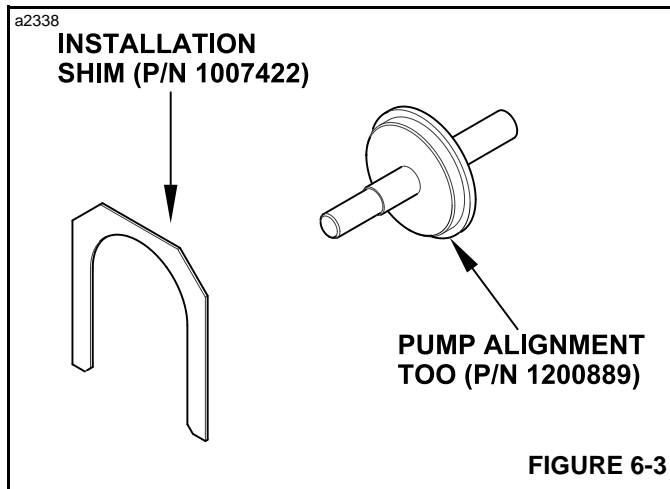
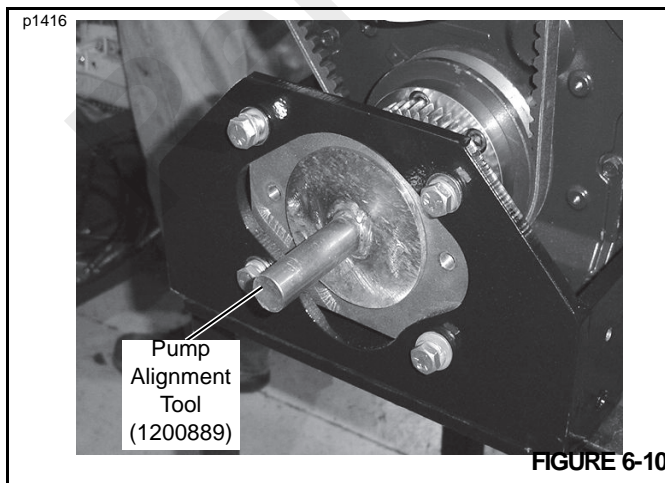

FIGURE 6-3
FIGURE 6-10
The special tools shown in Figure 6-3 are available from Marine Travelift.
7. Insert the pump alignment tool (Figure 6-3) into the pilot hole in the center of engine coupling hub (5, Figure 6-4) and into pump mounting plate (3) as shown in Figure 6-10. Tighten the pump mounting plate hardware to a torque of 87 Nm (64 lb-ft). Remove the pump alignment tool.
11. Insert the installation shim (Figure 6-3) behind coupling sleeve (4, Figure 6-4) as shown in Figure 6-14.